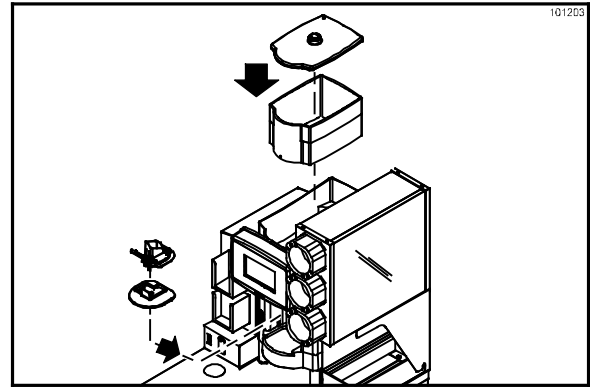

Figure 191
16. Reinstall the sanitized ice chute, splash guard, blender pitcher, ice hopper and ice hopper cover. (See Figure 191.)